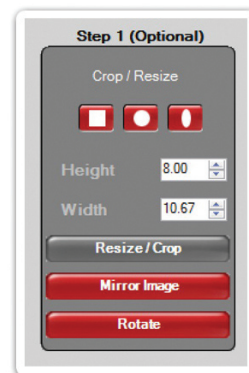

Figure 2.
STEP 1: CROPPING YOUR IMAGE (optional) – *See Figure 2*